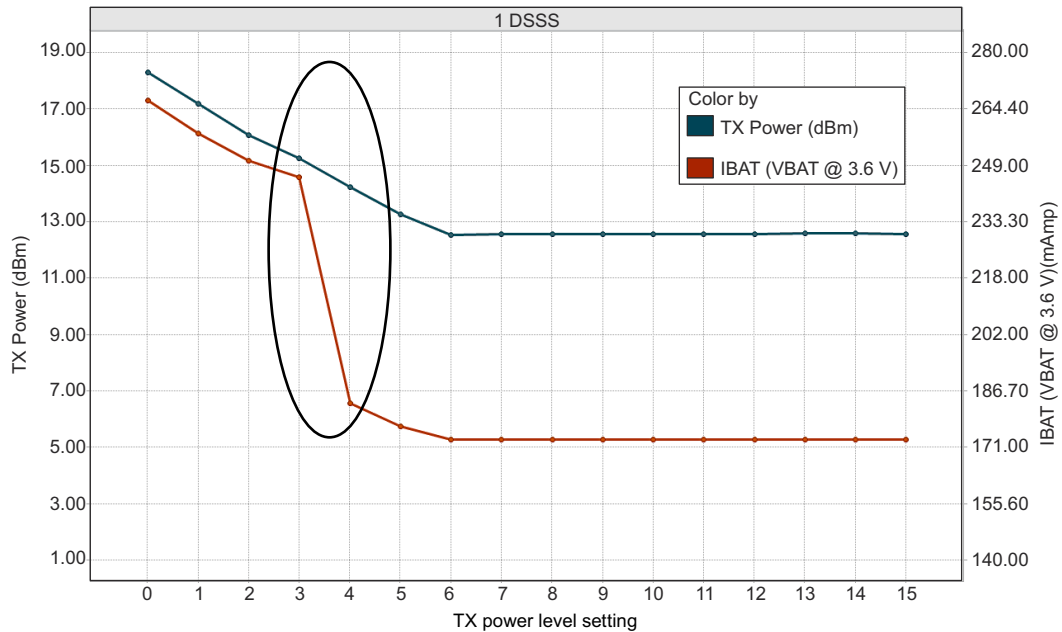
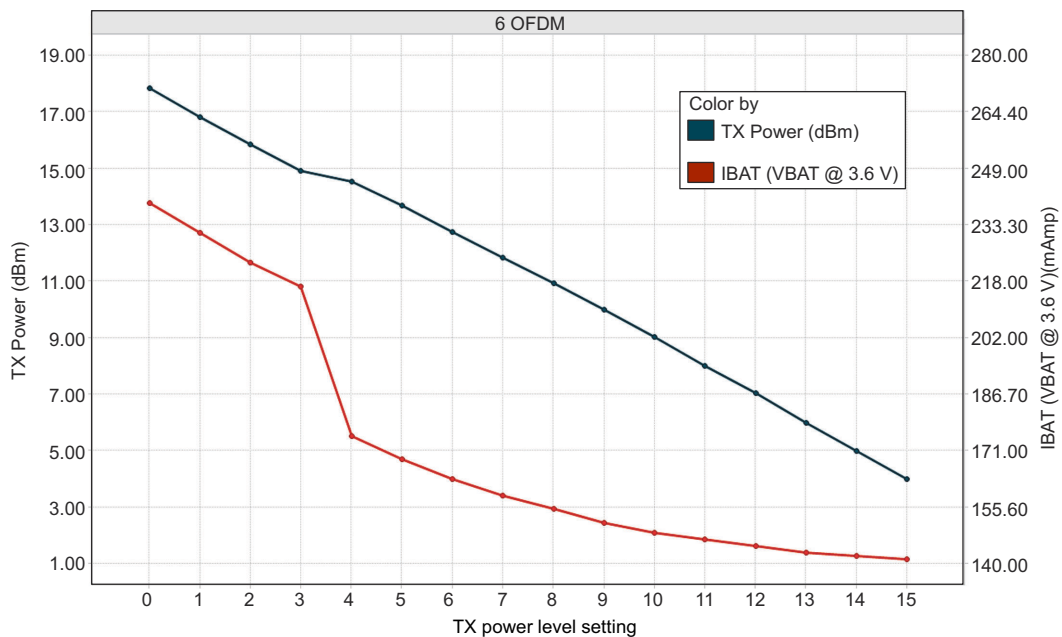
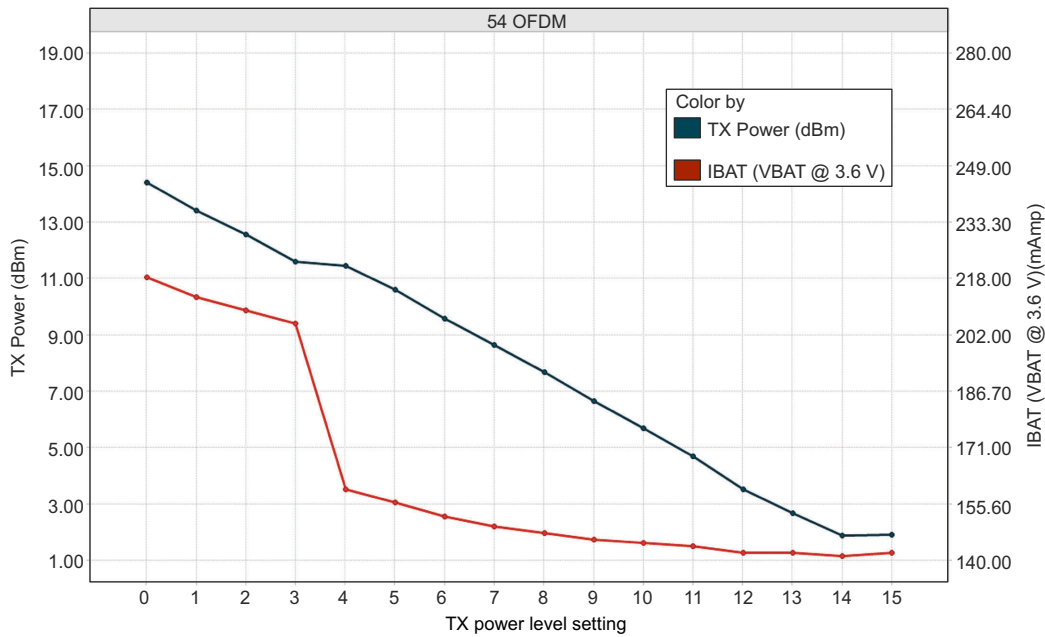

Figure 7-1. TX Power and IBAT vs TX Power Level Settings (1 DSSS)
Figure 7-2. TX Power and IBAT vs TX Power Level Settings (6 OFDM)
Figure 7-3. TX Power and IBAT vs TX Power Level Settings (54 OFDM)
- (1) TX power level = 0 implies maximum power (see Figure 7-1, Figure 7-2, and Figure 7-3). TX power level = 4 implies output power backed off approximately 4 dB.
- (2) The CC3235x system is a constant power-source system. The active current numbers scale based on the V_{BAT} voltage supplied.
- (3) Typical numbers assume a VSWR of 1.5:1.
- (4) DTIM = 1
- (5) LPDS current does not include the external serial flash. The LPDS number of reported is with retention of 256KB of MCU SRAM. The CC3235x device can be configured to retain 0KB, 64KB, 128KB, 192KB, or 256KB of SRAM in LPDS. Each 64-KB block of MCU retained SRAM increases LPDS current by 4 μA .
- (6) The complete calibration can take up to 17 mJ of energy from the battery over a period of 24 ms. Calibration is performed sparingly, typically when coming out of HIBERNATE and only if temperature has changed by more than 20°C. The calibration event can be controlled by a configuration file in the serial flash.
Figure 7-1, Figure 7-2, and Figure 7-3 show TX power and IBAT versus TX power level settings for the CC3235S device at modulations of 1 DSSS, 6 OFDM, and 54 OFDM, respectively. For the CC3235SF device, the IBAT
In Figure 7-1, the area enclosed in the circle represents a significant reduction in current during transition from TX power level 3 to level 4. In the case of lower range requirements (14-dBm output power), TI recommends using TX power level 4 to reduce the current.